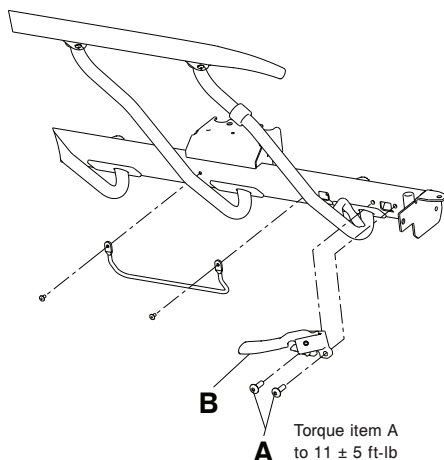

Figure 24 – Siderail latch replacement
3. Using a T40 Torx driver, remove the two truss head machine screws (A) that secure the siderail latch (B) to the litter frame (Figure 24). Discard the truss head machine screws. Remove and discard the siderail latch.